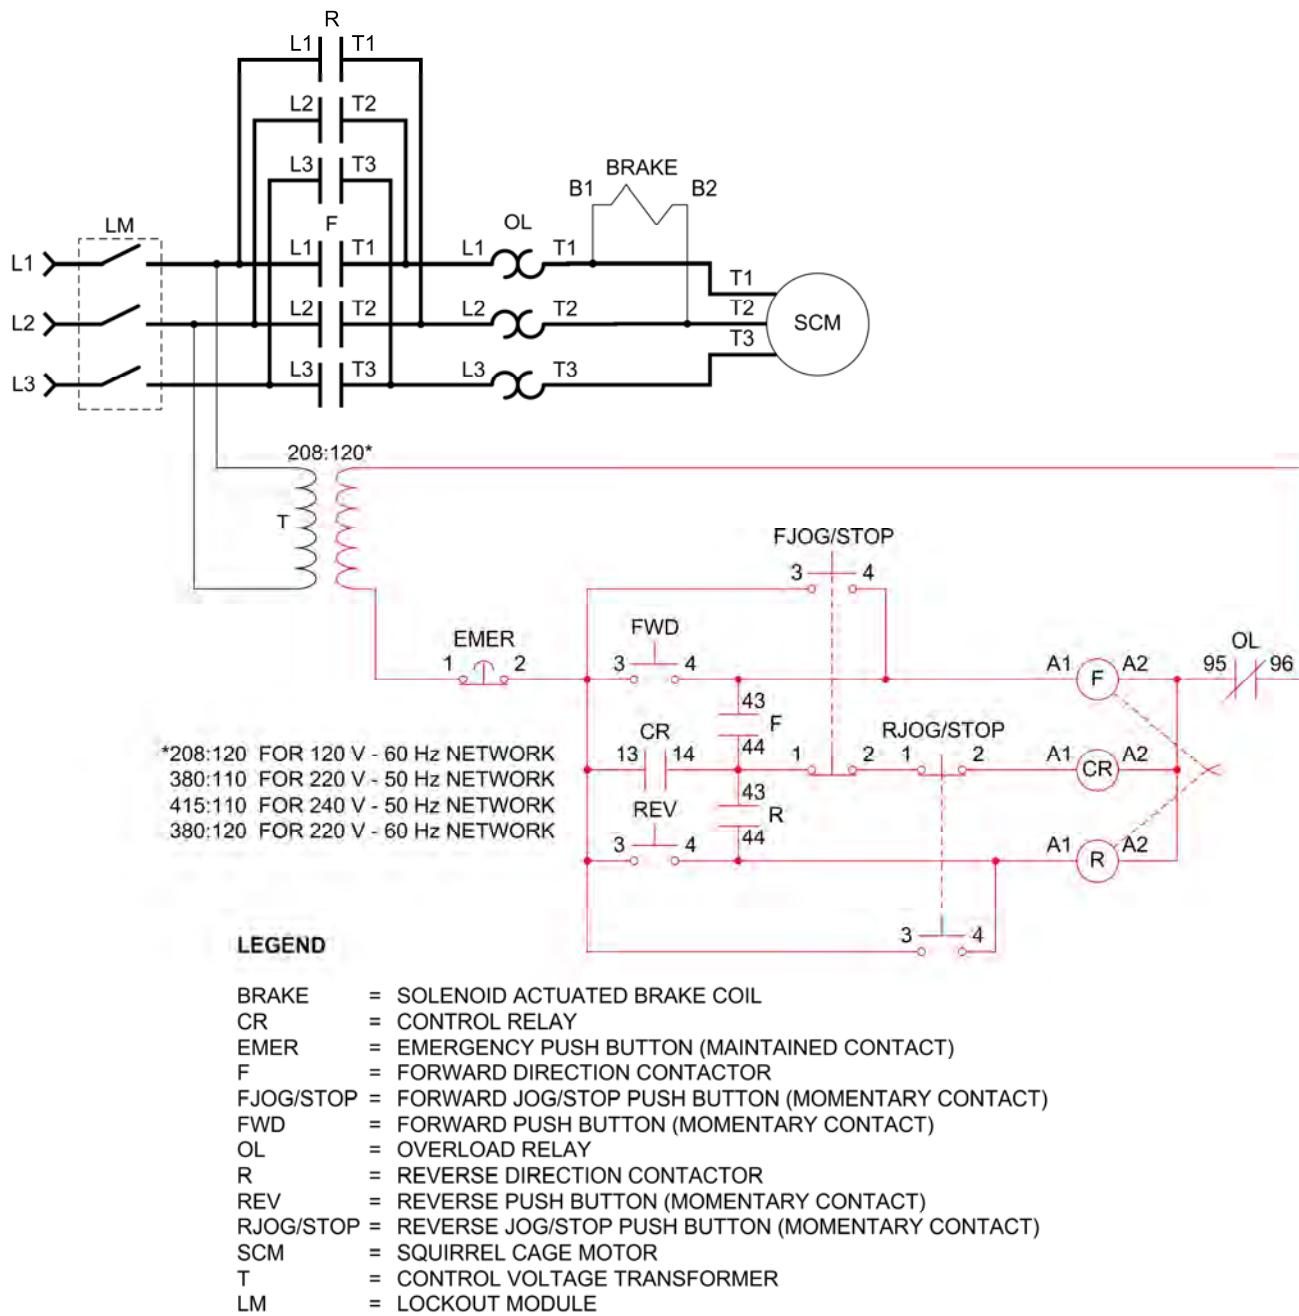

Figure 2-12. Reversing motor starter circuit with jogging.
Some applications, in particular in position control, require a motor to run and jog in both forward and reverse directions. To meet these requirements a jogging control circuit with a reversing motor starter can be implemented. Figure 2-12 is an example of a hardwired motor reversing circuit with jogging. This setup includes a control relay to form the holding circuits.
In this exercise, you will set up a PLC motor reversing circuit with jogging capabilities. You will test that the ladder program, shown in Figure 2-13, functions like the hardwired circuit in Figure 2-12.
5. Test the PLC circuit and note in Table 2-1 if it has the same characteristics as the hardwired version in Figure 2-12.
1. Which PLC programming unit in Figure 2-13 is logically equivalent to the control relay in Figure 2-12?